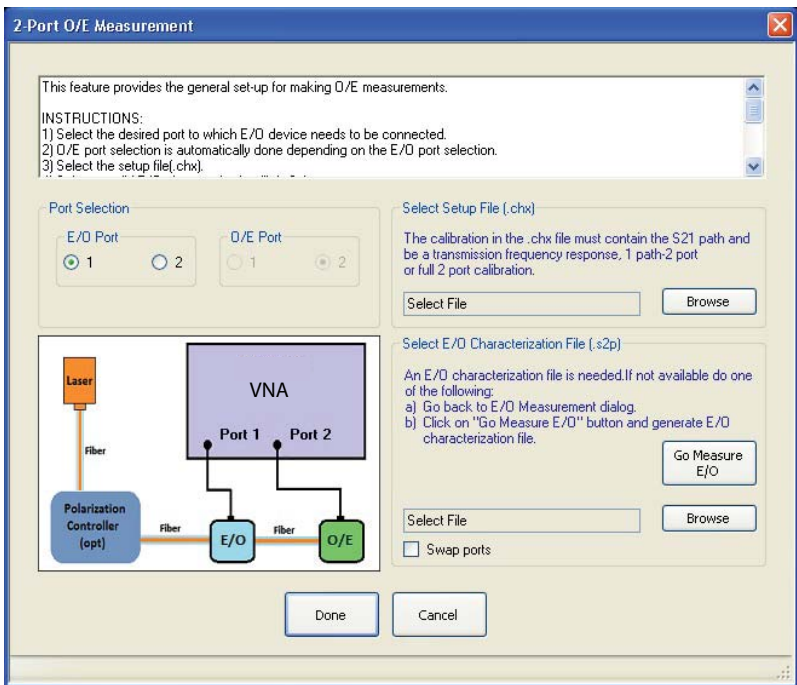

Figure 3-5. O/E Measurement Window
3. Follow the instructions in the menu shown in Figure 3-5 to load the 12-term electrical calibration that was saved in Step 1.